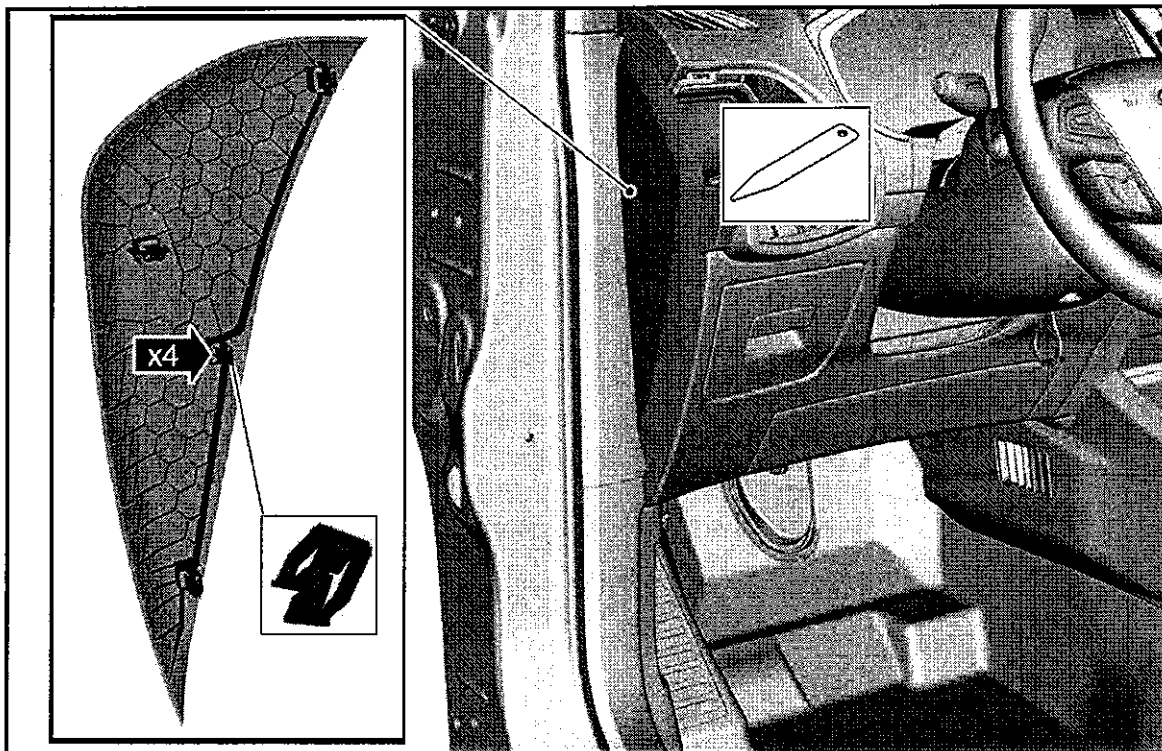

FIGURE 1
2. Release the clips and remove the LH and RH side trim panel. See Figure 1.